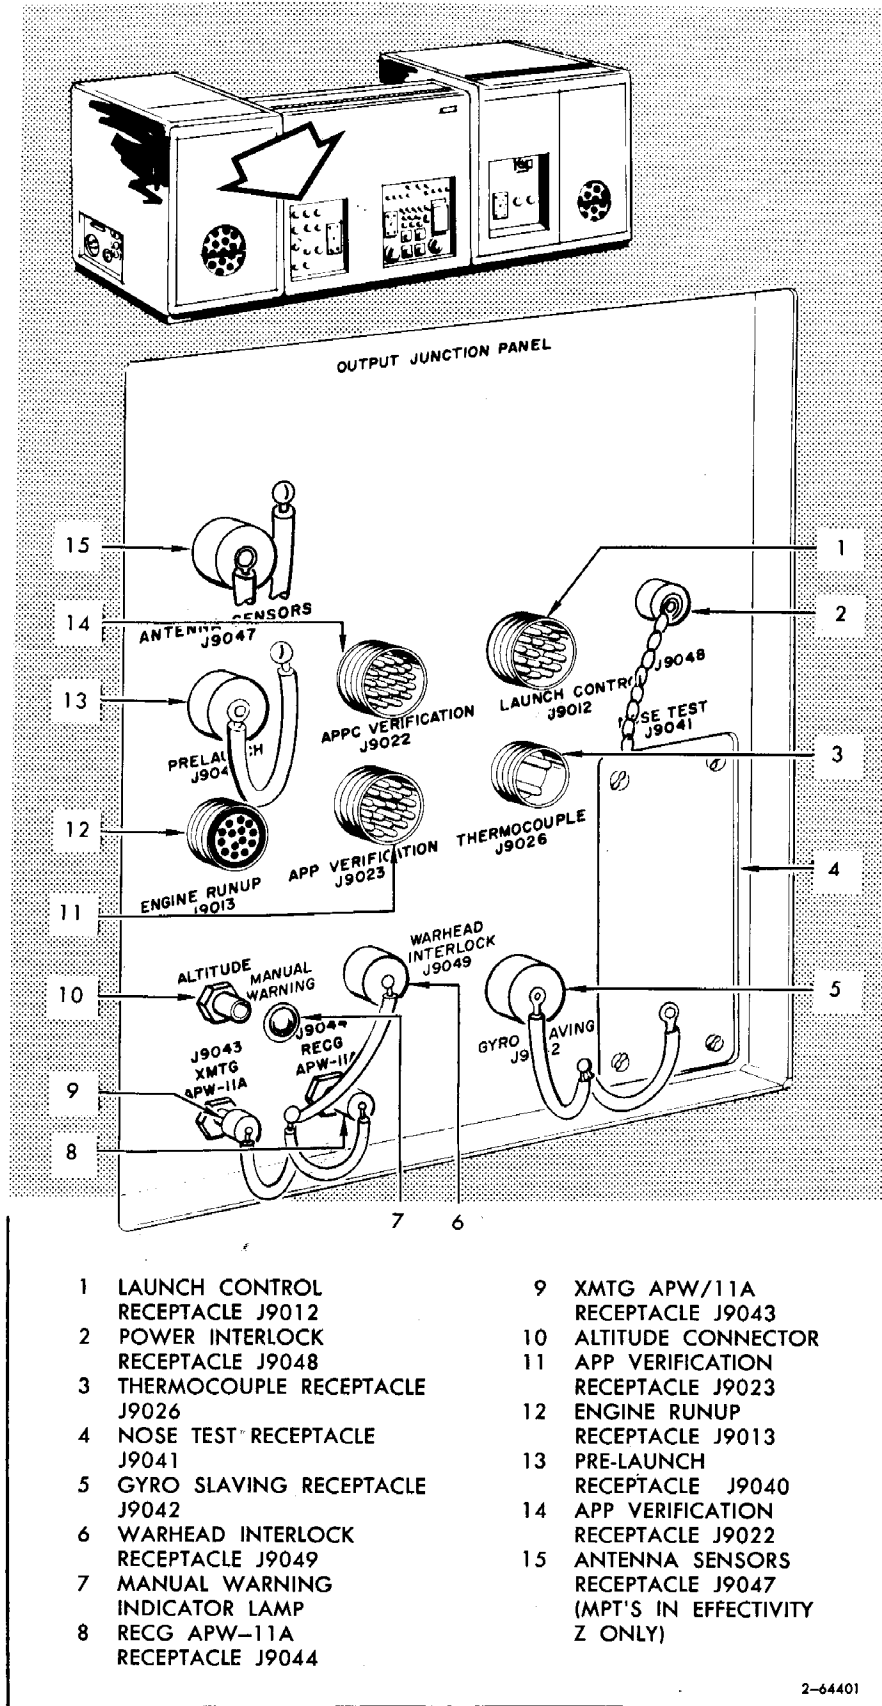

Figure 3-23. Output Junction Panel
- z. Connect altitude hose to ALTITUDE connector (10, figure 3-23) on Output Junction Panel.